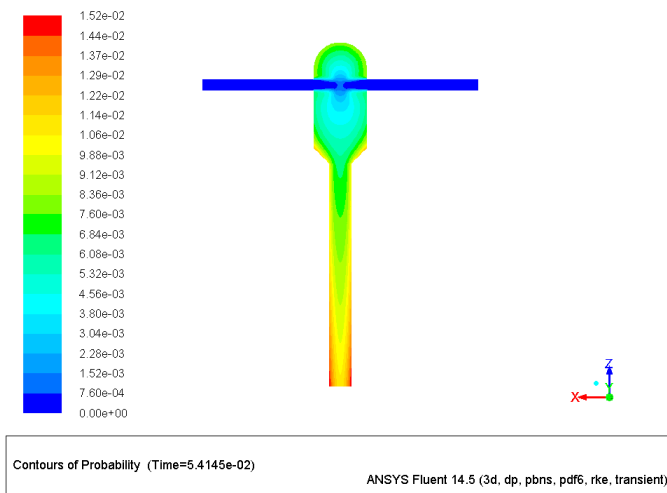

Figure 12: Contours of Probability After 200 Time Steps
- (c) Click Display (see Figure 12).